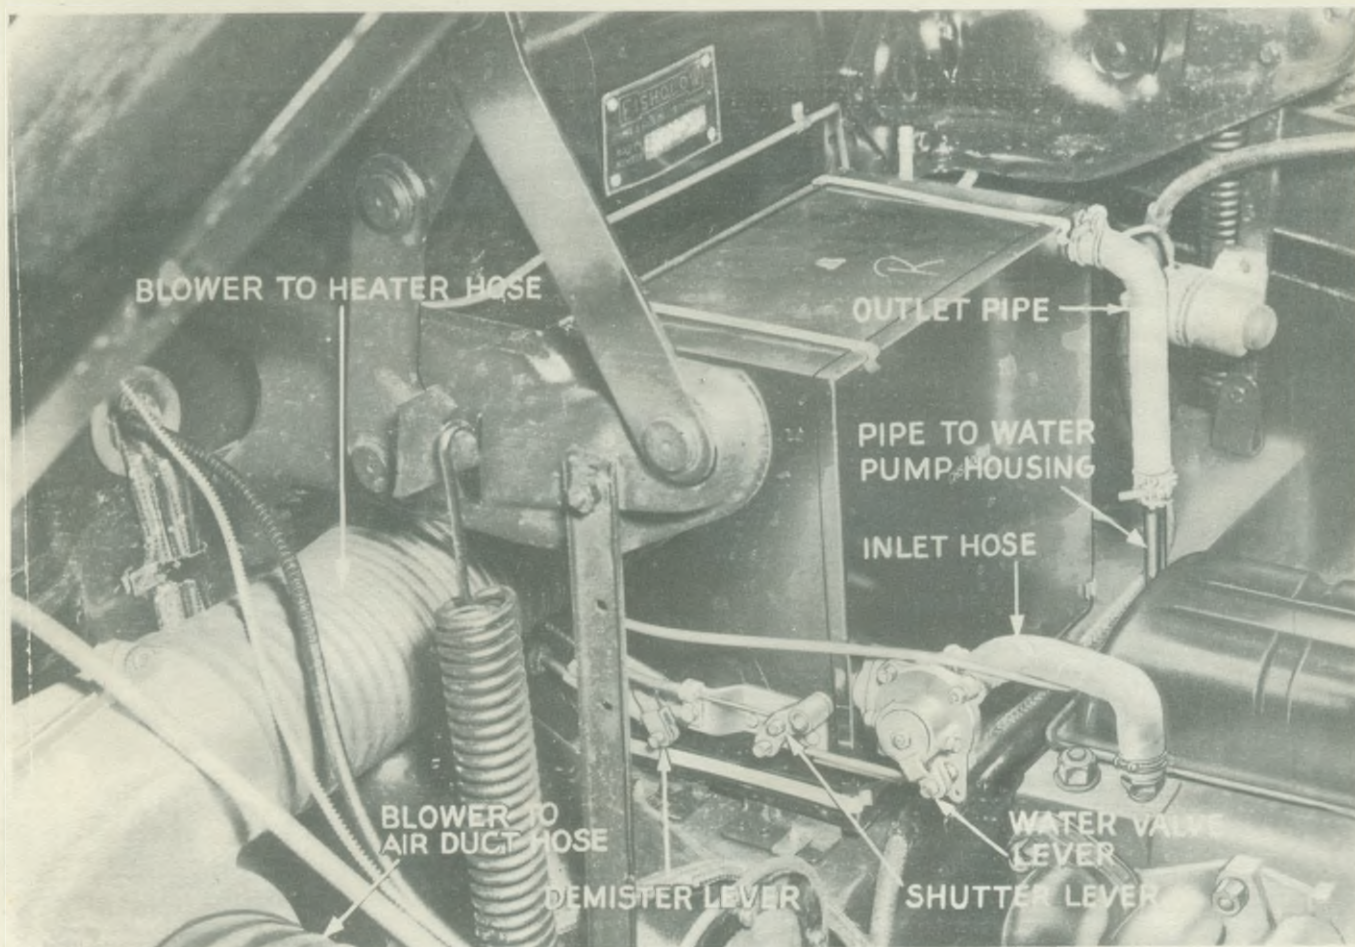

Fig. 24. View showing hose connections
position—the lever on the water valve should now be in the vertical position as in Fig. 24 with the water flow to the heater cut off. This may be checked by attempting to blow through the valve, using the rubber hose connection for this purpose.
17. Fit the outlet and inlet rubber hoses and clips on the heater box and secure these to their respective connections on the engine (see Fig. 24).